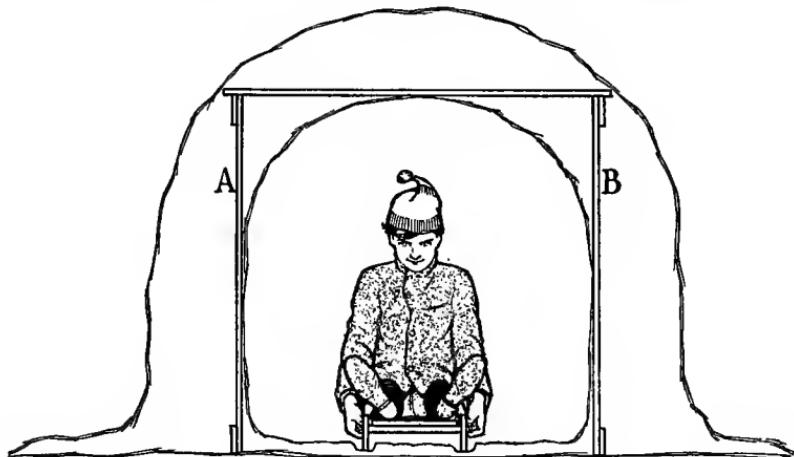

FIG. 415.—A Sectional View of the Snow Tunnel.
**Build the Tunnel Walls** about 12 inches thick, and pile plenty of snow upon the roof boards so a rounded roof can be made. Not only round off the top of the roof, but arch the ceiling as well, as shown in the sectional view of the tunnel (Fig. 415).